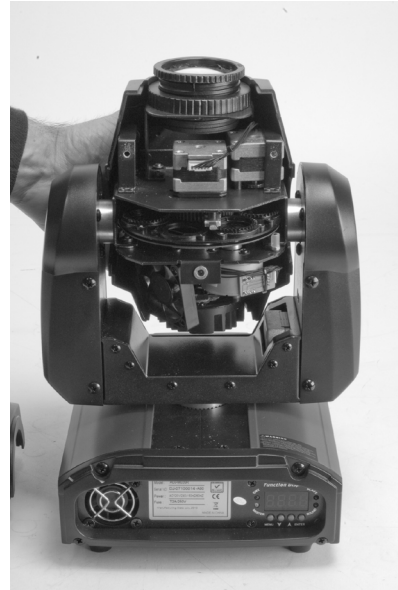

Figure 1
1. To change the gobo, you must remove the top half of the moving head. The top half of the moving head does not have the lens attached to it. The lens is on the top half of the head (Figure 1).